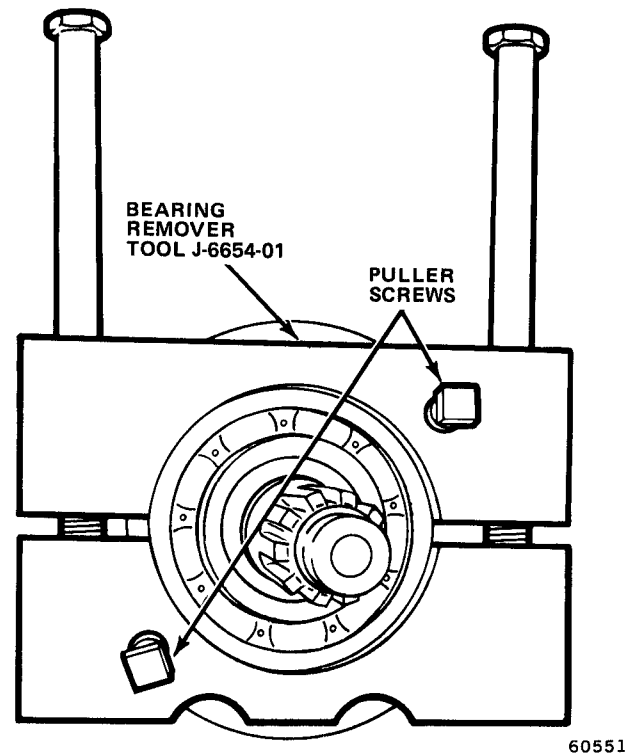

Fig. 6-6 Removing Clutch Shaft
- (5) Punch alignment marks in front bearing cap and transmission case for assembly reference.
- (6) Remove front bearing cap and gasket.
- (7) Remove large lockring from front bearing.
- (8) Remove clutch shaft, front bearing and Second-Third synchronizer blocking ring as an assembly using Tool J-6654-01 (fig. 6-6).